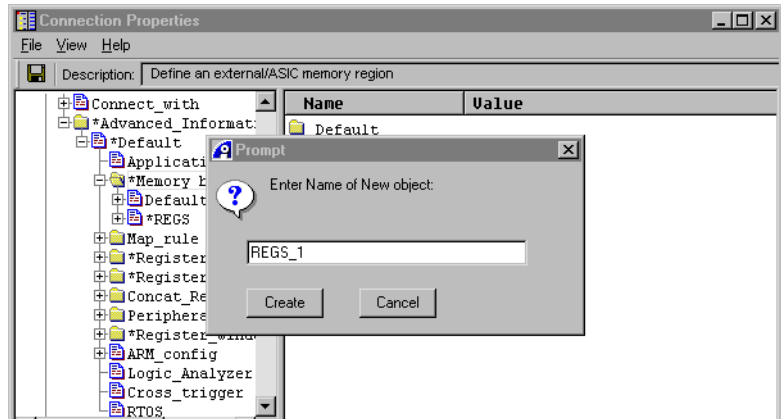

Figure 13-28 Creating a new memory block
5. Right-click on the REGS entry, in the left pane, and select **Make New...** from the context menu to see the prompt shown in Figure 13-28.